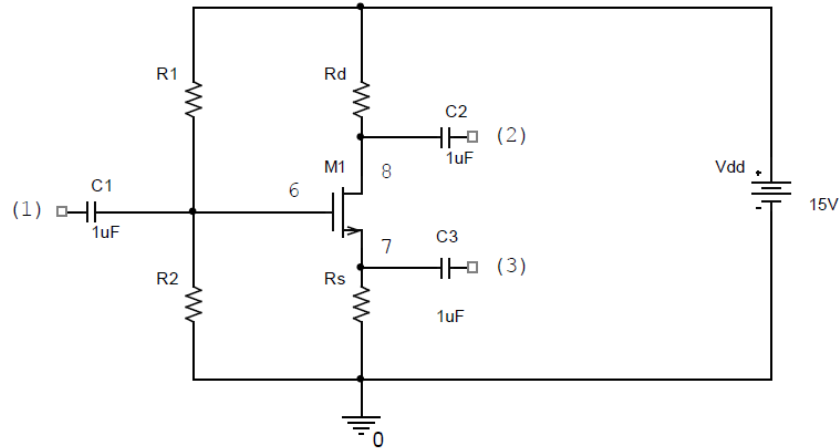

Figure 8-4 MOSFET Universal Amplifier Using CD4007
1. Observe the schematic shown in Figure 8-4. Notice that the numbers 6, 7, and 8 correspond to the pin connections on the CD4007UBE chip.
2. Before connecting the circuit in Figure 8-4, make sure to adjust the power supply for V_{DD} to ensure a voltage of +15V.
3. Connect the circuit shown in Figure 8-4. Measure and record the bias voltages V_D , V_G , and V_S .
5. Connect a load resistor of 10k Ω to node (2) and bypass R_s by grounding node (3). If R_s is not bypassed the gain will be very small (much less than 1). Now connect the function generator to node (1).
6. Measure the voltage at node (2) and calculate the voltage gain $A_{V_{G-D}}$, it should be approximately the same as the value calculated in the Prelab. Remove node (3) from ground and observe the reduction of gain.
8. Disconnect the function generator from the circuit while leaving the 10k Ω resistor connected to (2).
9. Now connect the function generator to node (3). Set the function generator to 1kHz, make sure the amplitude is still 100mVp-p. Measure the voltage at node (2) and calculate the voltage gain $A_{V_{S-D}}$, it should be approximately the same as calculated in the Prelab.
12. Connect the function generator to node (1) and connect the 10k Ω resistor to node (3).
13. Set the function generator to 1kHz, make sure the amplitude is still 100mVp-p. Measure the voltage at node (3) and calculate the voltage gain $A_{V_{G-S}}$, it should be approximately the same as calculated in the Prelab.